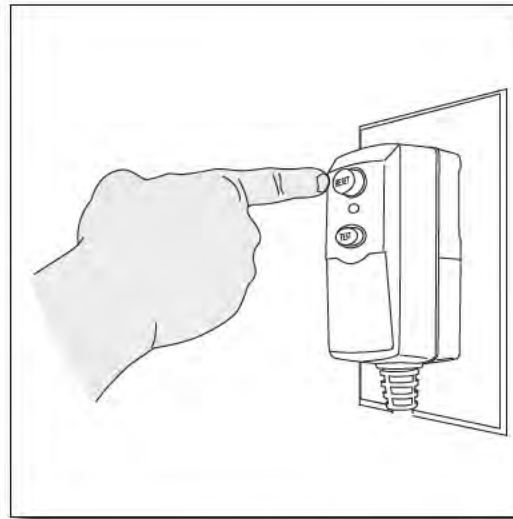

Fig. 19
- Unwind the power cord completely and plug the GFCI into a grounded 120 volt outlet. Press the ‘reset’ button on the GFCI box (Fig. 19). The indicator window should show a red color. This must be done each time the unit is plugged in.